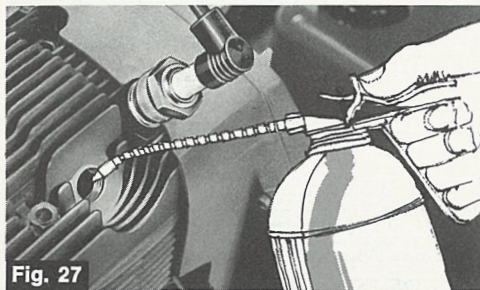

Fig. 27
- Reconnect spark plug wires and ground spark plugs to cylinders, as shown in Figure 27.